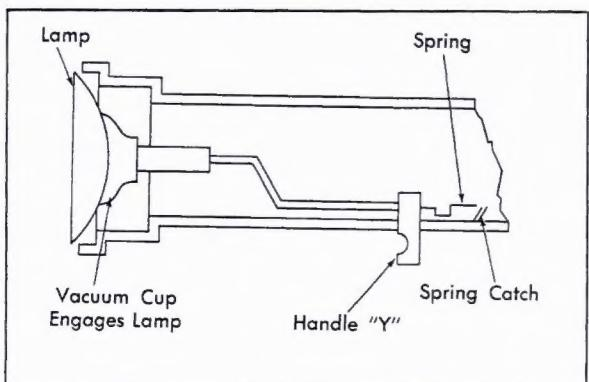

Fig. 12-7 Securing Aimers on Sealed Beams
4. Secure aimer to each headlight by pressing handle "Y" forward until vacuum cup engages headlight lens, then draw handle back until spring catches, Fig. 12-7.
- Hold aimer and release spring catch, Fig. 12-7. Push handle toward headlight to release aimer.